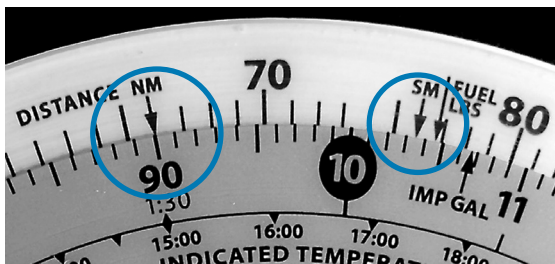

Figure 4. Place the nautical value (90) under the NM arrow and read the corresponding statute value under the SM arrow.
Distances on some maps and charts are in statute miles. Your airspeed indicator usually reads in knots, or nautical miles per hour. It is easy to convert between the two values by using special markings on the slide rule side of your flight computer. Knots can be converted to miles per hour in two ways: (1) aligning the NM and SM arrows or (2) using the NM and SM arrows on the outer disc. Look on the outside scale on either side of 70 for markings labeled NM and SM. Set the known value under the appropriate arrow and read the converted value under the other (see Figure 4). To convert 90 knots to statute miles per hour: